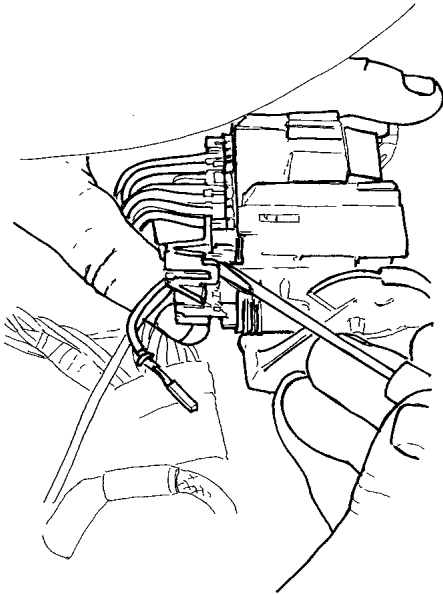

Figure 4 Remove Retainer
6. Remove the retainer from the connector by prying the clips up. There are 2 retainers on this connector. The one to be removed is over slot B-12 (Figure 4) .